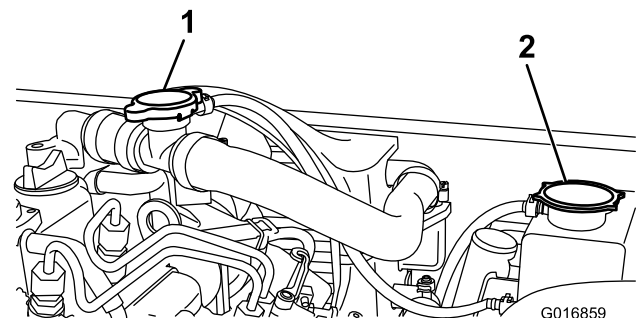

Figure 52
2. Remove the fill cap (Figure 52) and fill with coolant.
3. Replace the fill cap and remove the radiator overflow tank cap (Figure 52).
2. Remove the radiator overflow tank cap (Figure 52).